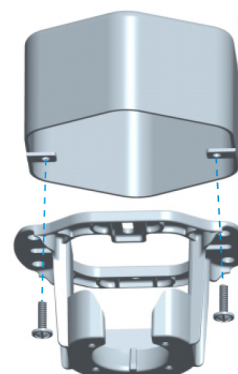

Fig. 5.1
Install the mounting bracket to the ceiling box, as shown in Fig. 5.1 below. Rotate the mounting bracket in different directions so that the bracket mounting holes match the screw holes of the ceiling box.
**Note:** This mounting bracket is a standard cable box. If the mounting bracket is installed at the outlet box, it should be installed on the outlet box with two screws matching the outlet box itself, as shown in Fig. 5.1.